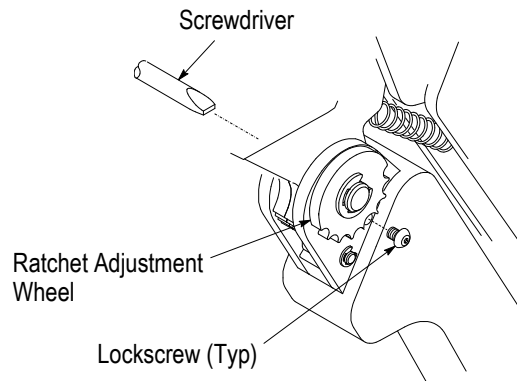

Figure 7
6. RATCHET (CRIMP HEIGHT) ADJUSTMENT (Figure 7)